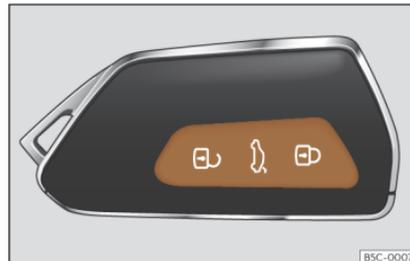

Fig. 62 Remote control key: buttons.
- Lock: press the  button >>> Fig. 62.